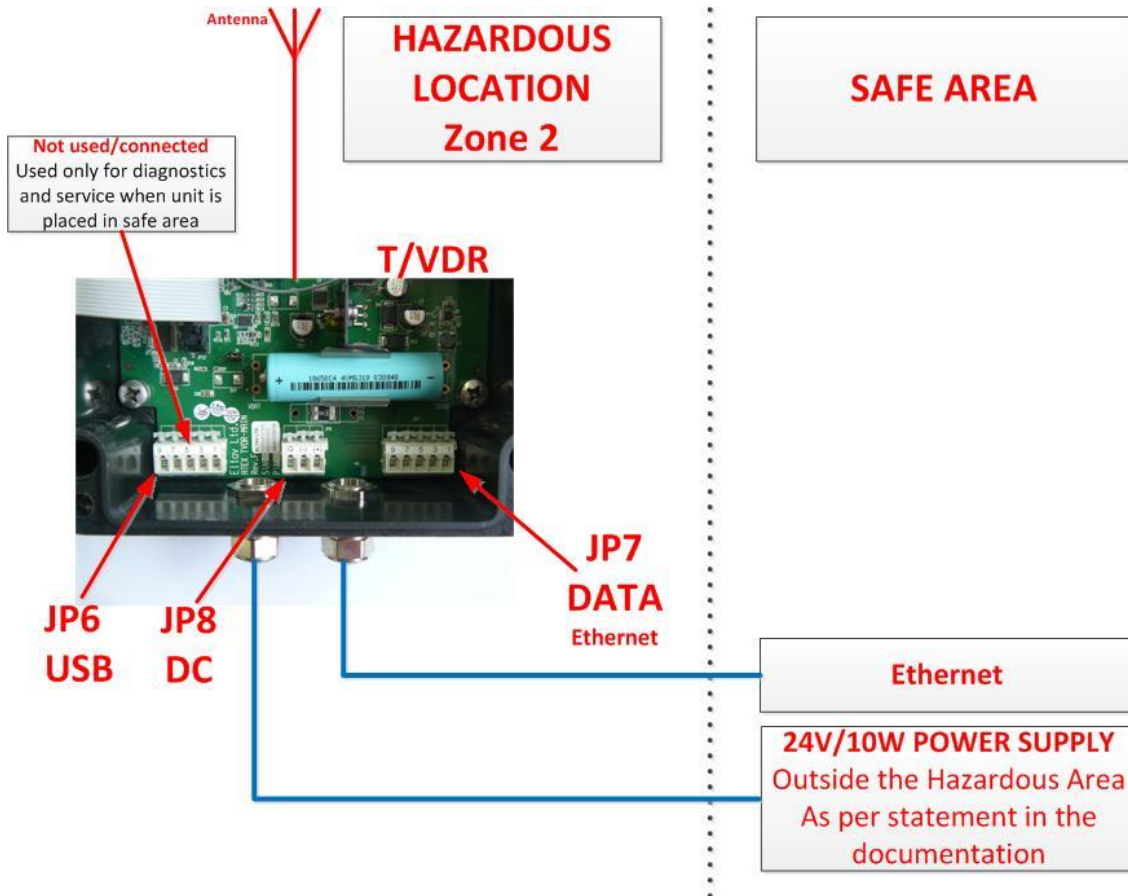

Figure 5: T/VDR Terminal Connections, Showing Safe and Hazardous Areas
4. Connect T/VDR terminals as shown in Figure 5. Pay particular attention to the separation between Safe and Hazardous areas. For additional information, refer to the discussion on terminal connections in Section 2.6